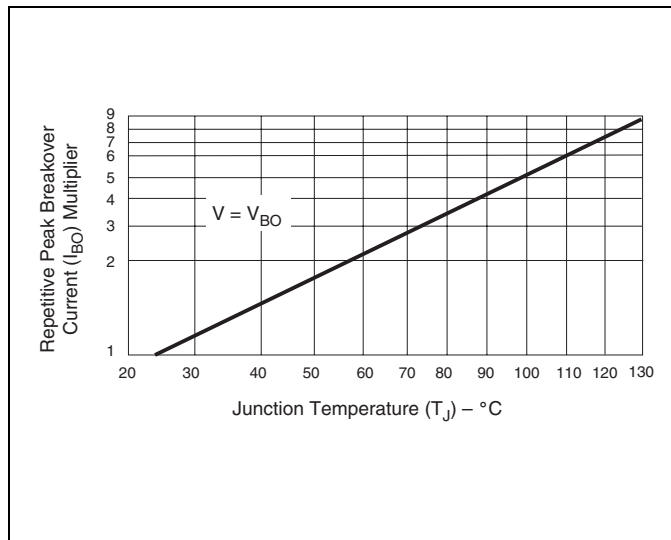

Figure E9.6 Normalized Repetitive Peak Breakover Current versus Junction Temperature
- See Figure E9.6 for I_{BO} versus junction temperature.